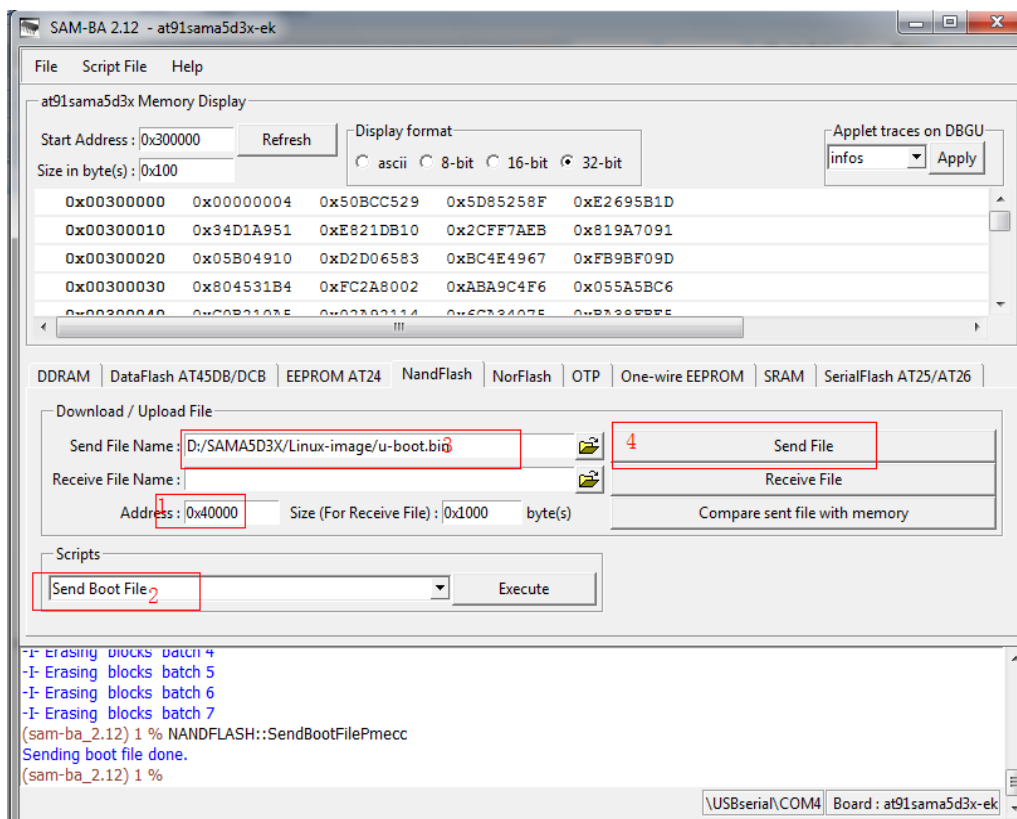

Figure 4-12
(7) Download [u-boot.bin] to 0x40000. Refer to figure 4-12: